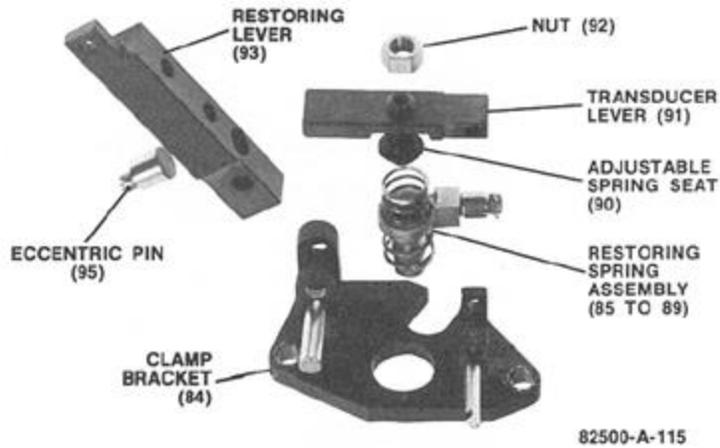
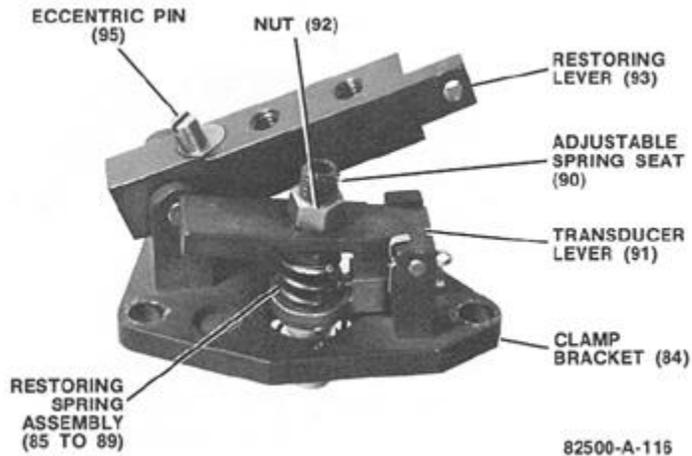
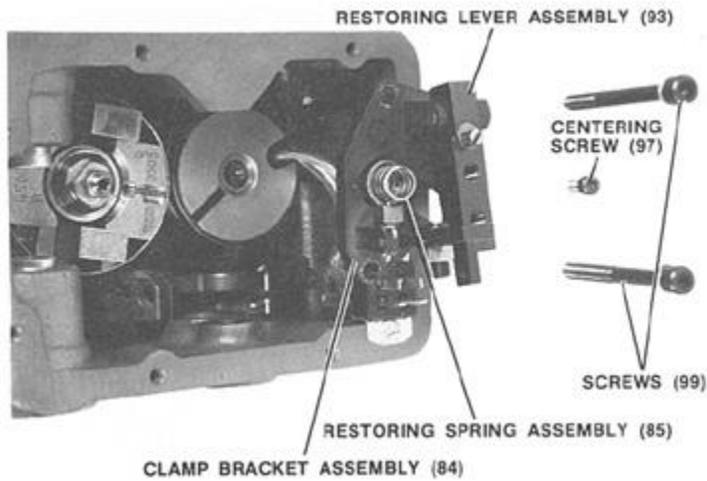
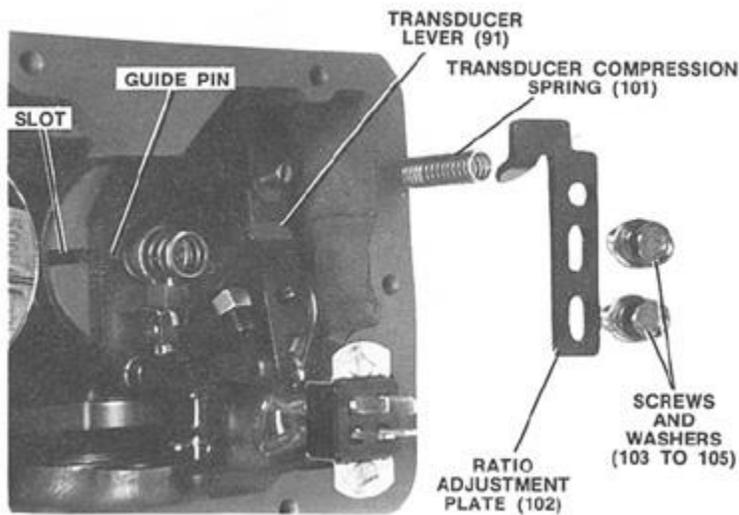

Figure 5-8. Clamp Bracket Parts Layout
Figure 5-9. Clamp Bracket Subassembly
Figure 5-30. Clamp Bracket Assembly
Figure 5-31. Transducer Compression Spring & Ratio Adjustment Plate
6. Assemble clamp bracket (84), restoring spring assembly (85 to 89), transducer lever (91), restoring lever (93), eccentric pin (95), adjustable spring seat (90), and pilot valve plunger nut (92) per Figure 5-8 Parts Layout and Figure 5-9 Subassembly.
25. Install transducer assembly on pilot valve plunger (46) and attach plug (132) to case with screws (133). Be sure connections of plug (132) match the connections in cover.
26. Install clamp bracket assembly (Figure 5-9) and secure with screws (99). Note guide pin to slot position Figure 5-31. Insert centering screw (97) through hollow center of adjustable spring seat. Bottom centering screw to prevent binding when plate (102) is installed. Final adjustment is made later. See Figure 5-30.
27. Insert transducer compression spring (101) in position and pivot the transducer lever over to lie on top of the spring. Attach plate (102) to restoring lever with screws (105) and washers (103 and 104). See Figure 5-31. Connect restoring lever to piston link (78) using headed pin (100) and cotter pin (157). Transducer clamp bracket may require realignment to remove binding in this joint.